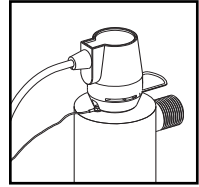
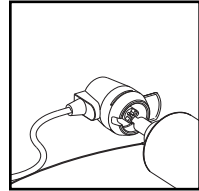
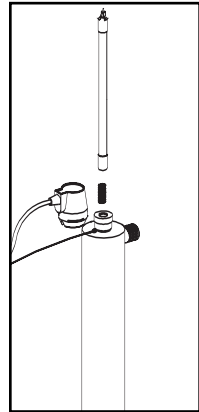

FIGURE 1
FIGURE 2
FIGURE 3
2. Disconnect main power source and allow the unit to power down. Remove the lamp connector by sliding the metal retaining ring (Figure 1) away from the body of the connector. Remove connector and lamp from the reactor chamber. Separate the lamp from the connector (Figure 2). Do not twist the lamp from the connector, simply slide the two apart. Avoid touching the lamp on the glass portion. Handling the lamp at the ceramic ends is acceptable, however if you must touch the lamp glass, please use gloves, or a soft cloth. Fully remove the lamp from the reactor chamber being careful not to angle the lamp as it is removed from the chamber. If the lamp is removed on an angle, pressure will be applied on the inside of the quartz sleeve, causing the sleeve to fracture.
3. To install a new lamp, first remove the lamp from its protective packaging, again being careful not to touch the lamp glass itself. Carefully insert the lamp into the reactor vessel (actually inside the quartz sleeve) (Figure 3). Insert the lamp fully into the chamber leaving about two inches of the lamp protruding from the chamber. Next, attach the connector to the UV lamp (Figure 2). The connector is "keyed" and will only allow correct installation in one position. Ensure the connector is fully seated onto the UV lamp (Figure 4).
4. Once the lamp is fully seated on the connector, slide the connector over the aluminum retaining nut. Make sure the metal retaining ring on the connector is pulled away from the body of the connector in order that the connector may slide fully over the retaining nut. Once the connector is located fully over the retaining nut, slide the metal ring back in to lock the connector in place (Figure 5). As this connector is keyed to the reactor chamber, make sure the depression on the connector (Figure 1) is located over the ground lug located on the reactor chamber.